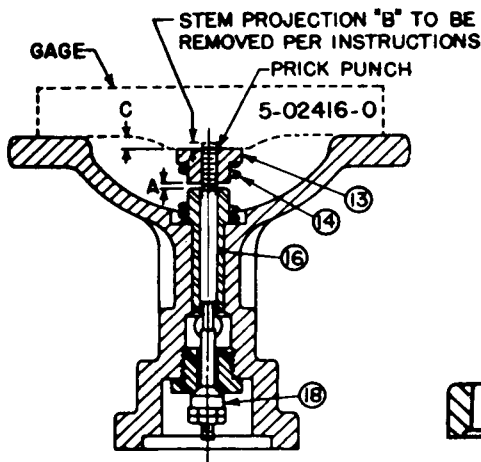

Fig. 6 VALVE SETTING, TYPE D PILOT
1. Pilots - Fig. 6
- c. To install new Stem (16) omit Spring (14) and assemble other parts shown.
- d. Hold Valve Disc (18) tight against its seat and screw Pusher Plate (13) down until dimension "C" = 11/64"
- e. Grind off Stem projection "B" flush with upper face of Pusher Plate (13).